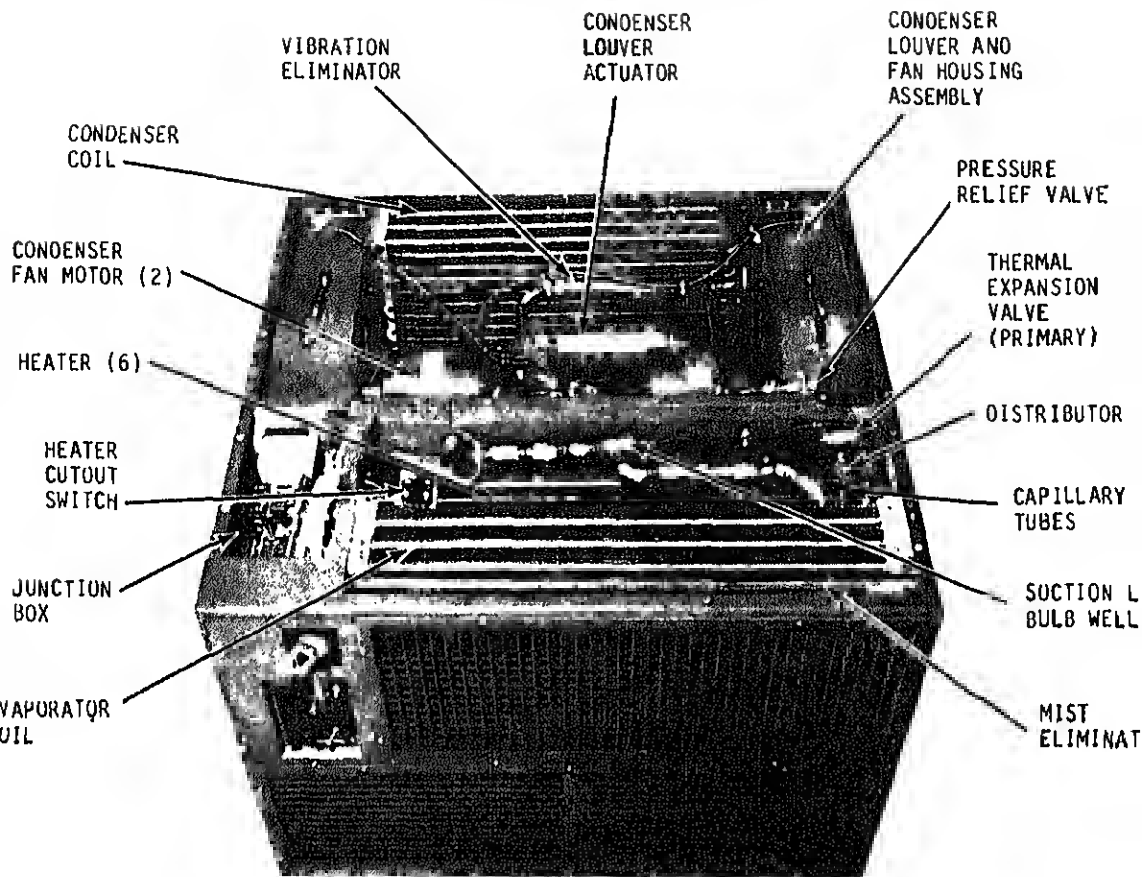

Figure 1-3. Air conditioner top view, top covers removed
a. Evaporator Section. The evaporator section (fig. 1-3), located in front of the air conditioner, contains intake and discharge air louvers, air filter, mist eliminator, evaporator coil, evaporator motor and fans, heating elements, heater thermal protector, thermal expansion valve, condensate drain
ion (fig. 1-3) located in the rear